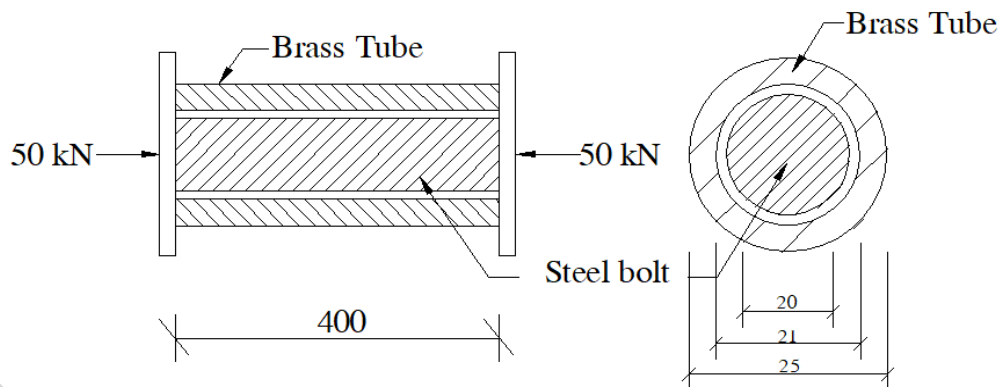

Figure 1
- b) A steel bolt 20 mm diameter is enclosed in a brass tube of 25 mm external diameter and 2 mm thickness. Assume the ratio of  $E_s / E_b = 2$ . Initial length of both component is = 400 mm. Determine the stresses in the steel and brass, if the composite section is subjected to an axial compressive force of 50 kN. Assume  $E_s = 200$  GPa. Find also the change in the length of the composite section. Refer Figure 1. **08**